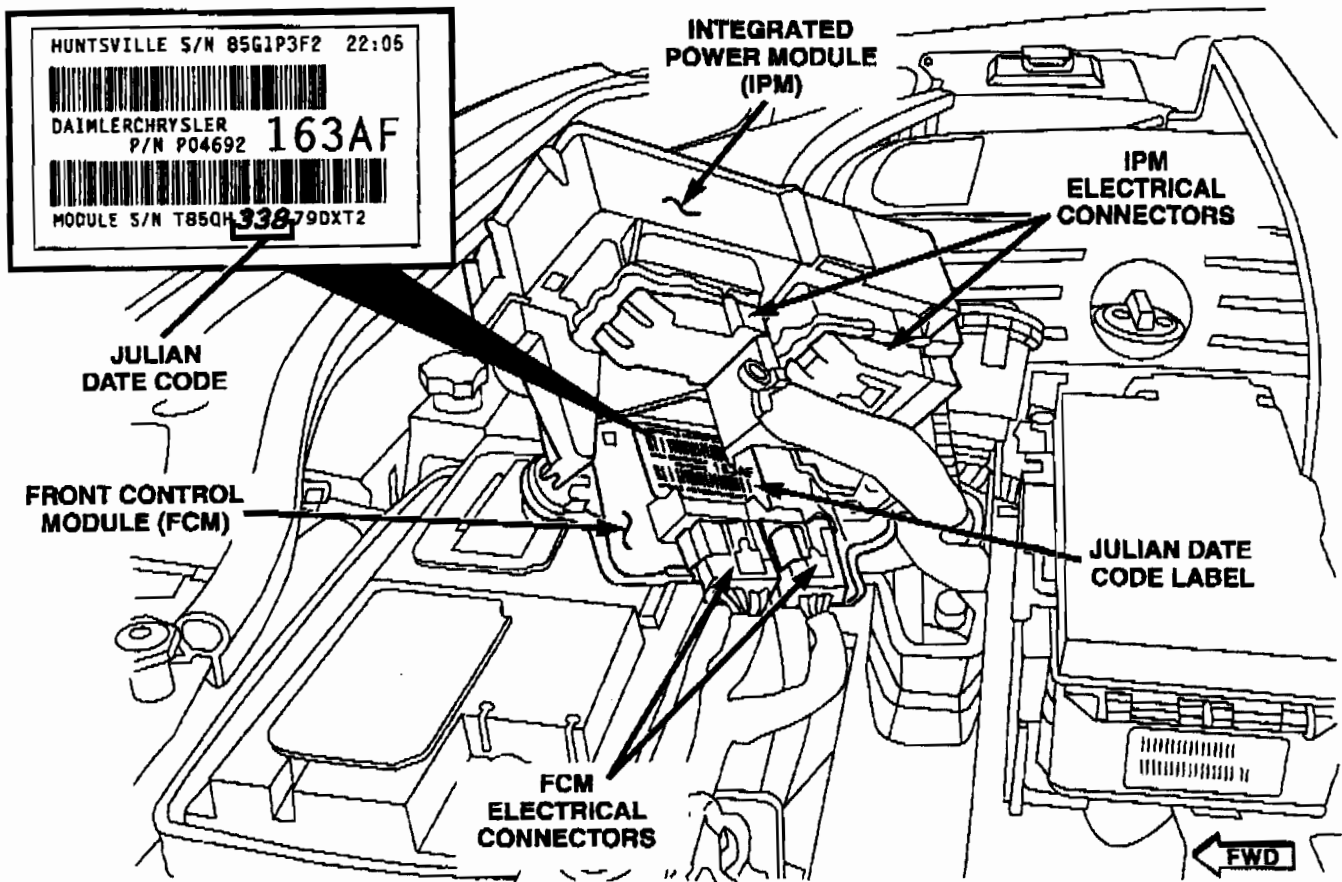

Figure 3
- e. Lay the IPM on its side to expose the FCM Julian date code label (Figure 3).
3. Inspect the Julian date code on the label located on the backside of the FCM (Figure 3).
NOTE: The Julian date is the 6th, 7th, and 8th character in the bottom row of numbers (Figure 3).
4. Disconnect the two IPM electrical connectors (Figure 3).
5. Disconnect the two FCM electrical connectors (Figure 3).
13. Connect the two FCM electrical connectors (Figure 3).
14. Connect the two IPM electrical connectors (Figure 3).